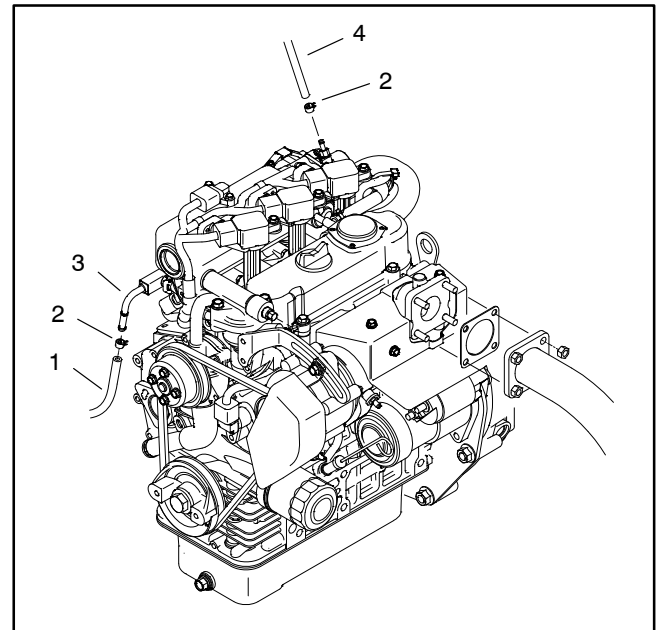

Figure 32
3. Disconnect fuel supply hose from engine fuel rail (Fig. 32).